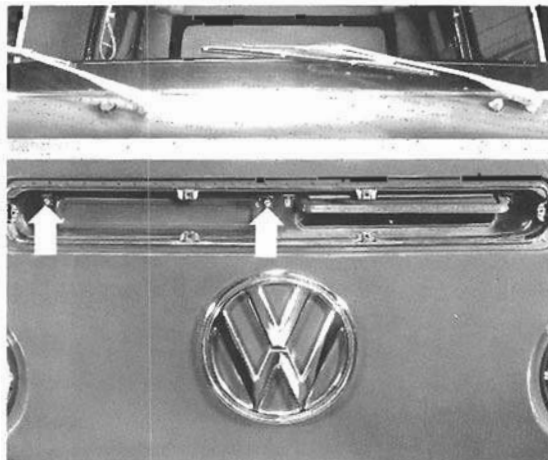

Fig. 10-5. Screws (arrows) that hold fresh air flap to vehicle body.
4. Remove the two screws indicated in Fig. 10-5. Then remove the fresh air flap from the vehicle.